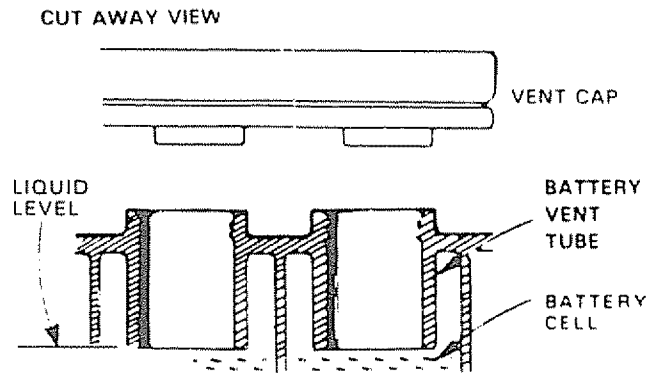

FIGURE 13
- a. Battery acid solution level in each battery cell should be even with bottoms of vent tubes in cells (Fig. 13). Add **ONLY** distilled or iron free water if necessary. NOTE: DO NOT OVERFILL.